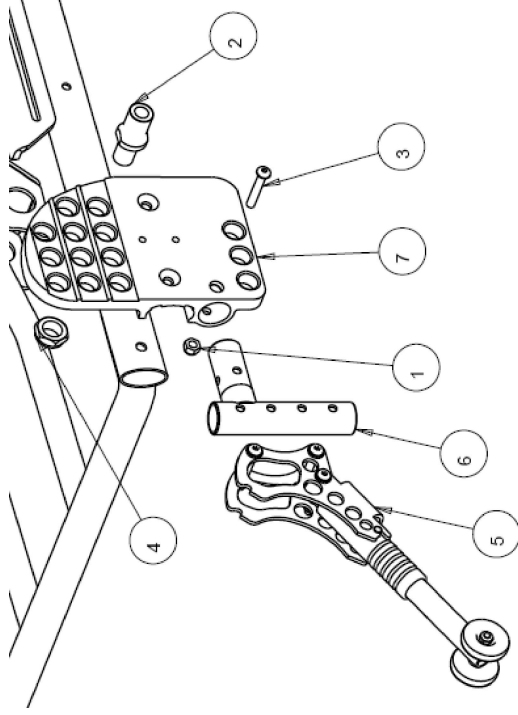
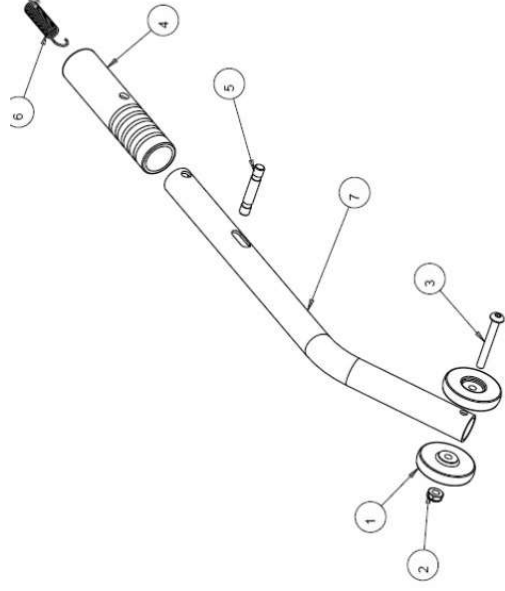

Figure 26
Figure 27
Installing/ adjusting anti-tippers (Figure 26, Figure 27)
1. Insert anti-tipper (5) into the tube weldment (6) as show in Fig 26 making sure to align the two holes of the anti-tipper to the tube weldment.
2. Screw two bolts to secure the anti-tipper (5) to the tube weldment (6).
3. Insert the tube weldment into the hole of the axle plate (7).
5. Once the holes are aligned, screw bolt (3) and nut (1) through the holes to secure anti-tipper to the wheel chair.
8. The height of the anti-tippers can be changed by aligning the two holes on the tube weldment and the anti-tipper. Refer to item (6) in Fig 26.